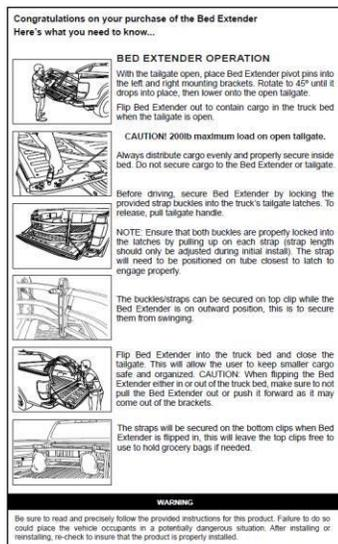

Fig. 3-1
**⚠** (c) Place care card into glove box (Fig 3-1).